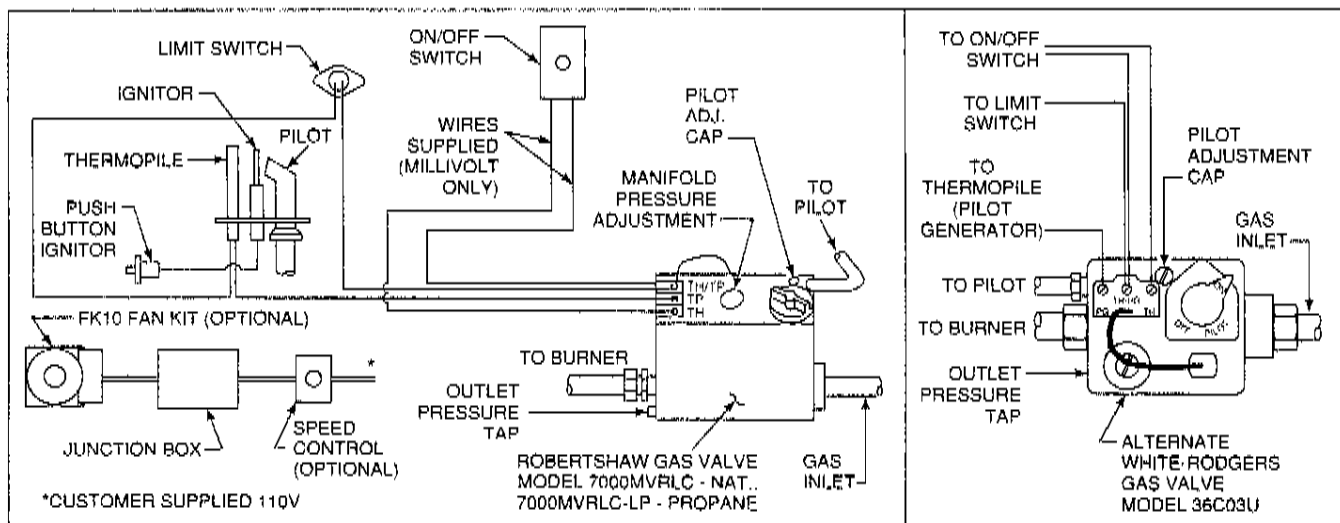

Figure 6B
- Appliance Requirements.** This appliance comes prewired for a remote wall switch. Connect the two wires penetrating the outside of the appliance to each side of an ON/OFF switch. A wiring diagram is shown in Figure 6B.
1. Remove the pilot adjustment cap. See Figure 6B, page 5.